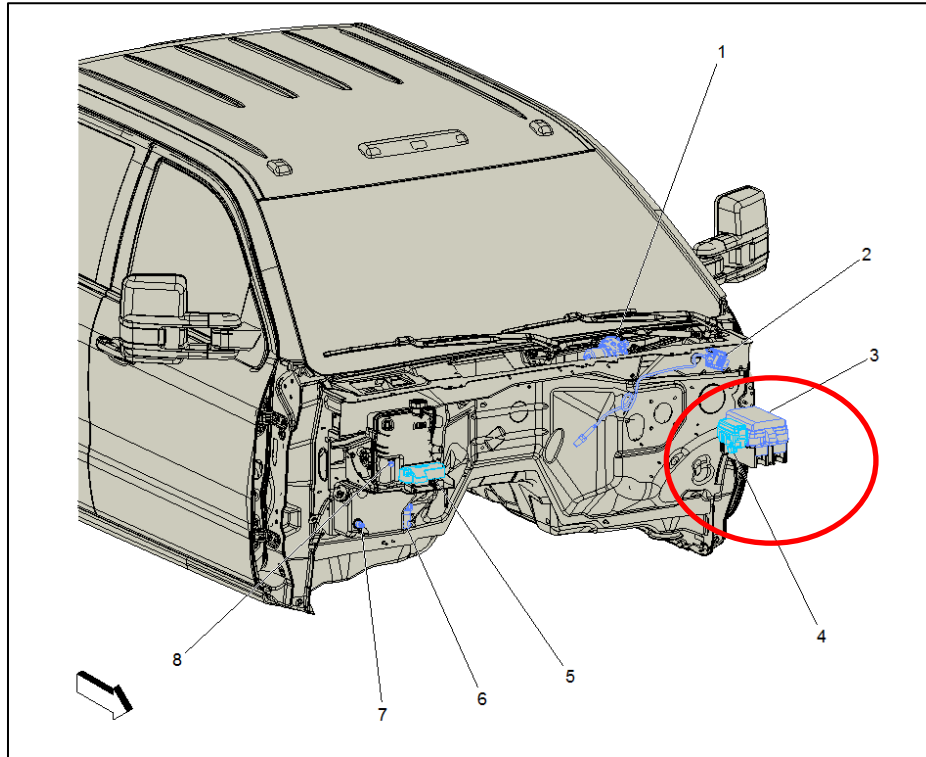

Figure 1
The bulk of the circuits that need to be added are in Connector X4 of the Underhood Electrical Center (UEC - X50A) (see item 3 - figure 1)